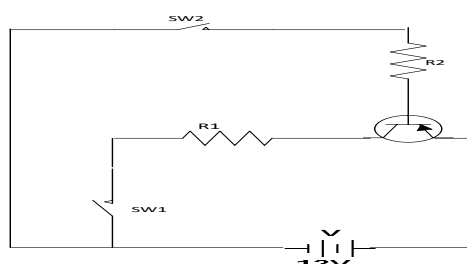

Figure 6.3 Switching circuit
- Trace the directions of all currents in this circuit, and determine which current is larger: the current through resistor R1 or the current through resistor R2, assuming equal resistor values as shown in figure 6.3.